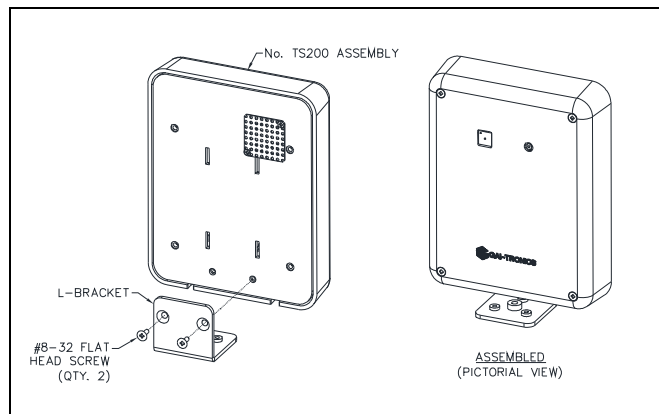

Figure 9. L-Bracket Attachment for Tripod/Microphone Stand Mounting
2. Secure the L-bracket to the mounting plate using the two included #8-32 flat head machine screws (see Figure 9).